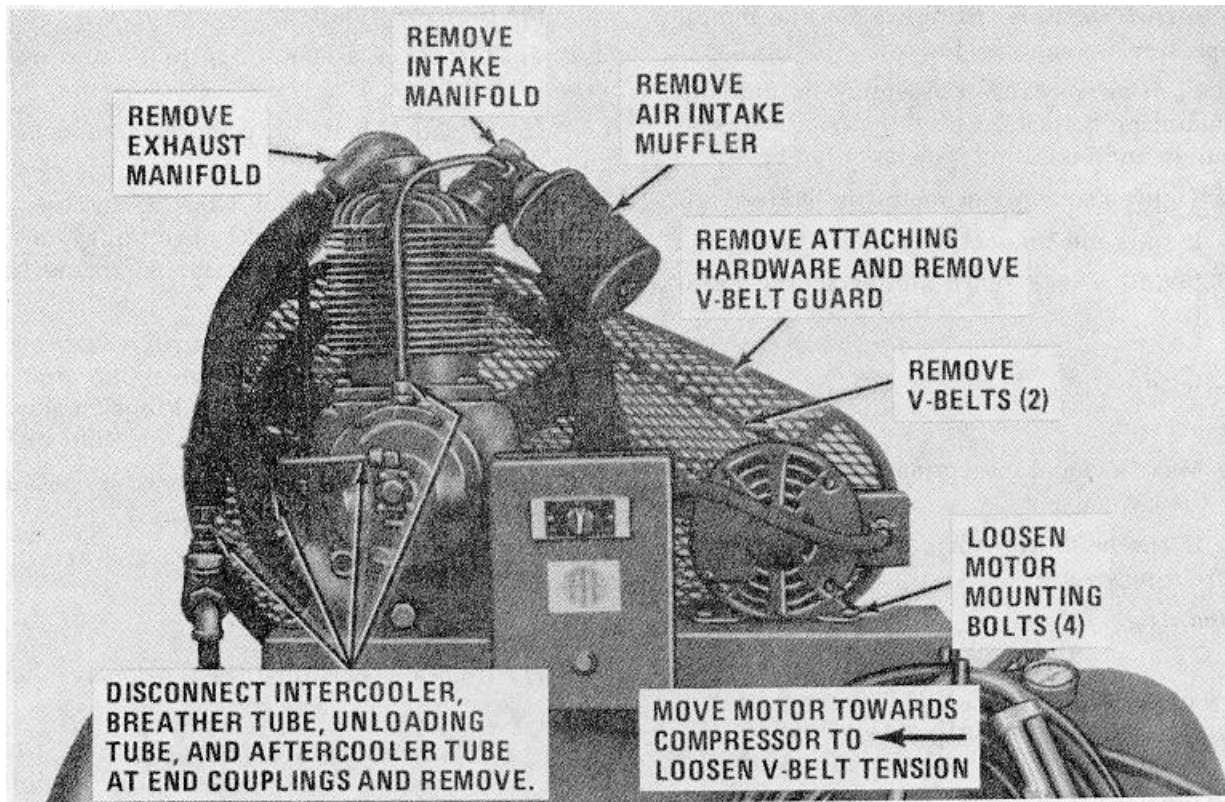

Figure 4-5. Compressor components and V belt drive.
(1) Use a cloth dampened in cleaning solvent, P-D-680, to remove oil and dust from the belts.
(2) If the belts have become saturated with oil and dirt, replace with a new set.
c. Removal. Refer to figure 4-5 and remove V-belts as follows:
(1) Remove attaching hardware and remove V-belt drive guard.
(2) Loosen motor mounting bolts and move
(3) Remove V-belts.
d. Installation. Refer to figure 4-5 and install V-belts as follows:
(1) Install V-belts on compressor and motor pulleys.
(2) Move motor away from compressor increasing V-belt tension. Make sure pulleys are in correct alignment. Tighten motor mounting bolts slightly.
(3) Press on the V-belts with your fingers midway between the motor drive pulley and the compressor flywheel. Proper V-belt tension is when the belt deflection is no more than one-half inch.
(4) When proper belt tension is obtained tighten motor mounting bolts securely.
(5) Install V-belt drive guard and attaching hardware and tighten securely.
a. Removal. Refer to figure 4-5 and remove air intake muffler as follows: Loosen set screw securing air intake muffler to intake manifold and remove intake muffler.
c. Installation. Install intake muffler on intake manifold as shown in figure 4-5 and secure by tightening setscrew.